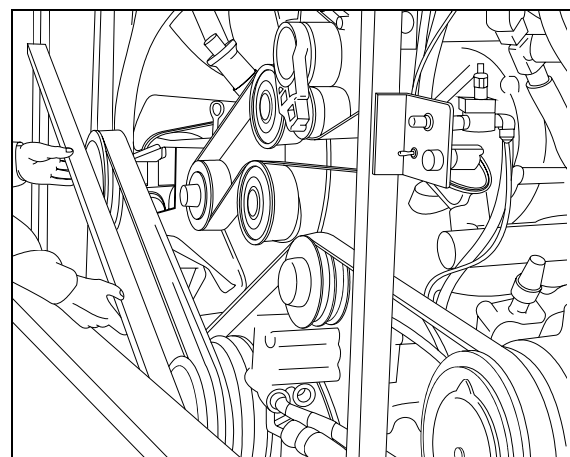

FIGURE 17: PULLEYS ALIGNMENT 05064
3. Using a straight edge, align the 3"V" pulley on gearbox central shaft pulley with engine pulley, while taking pulleys outer edge thickness under consideration i.e. 3"V" pulley's outer edge is thicker than that of engine pulley's (Fig. 17).